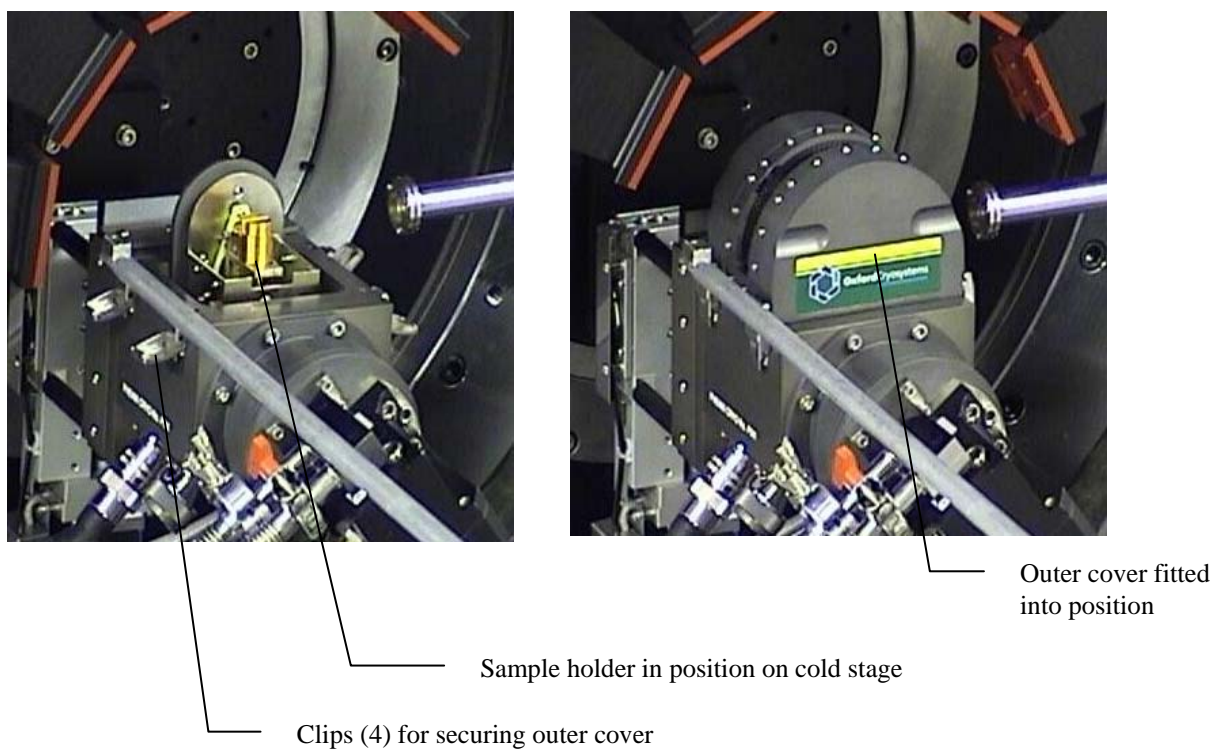

Figure 9 Views of PheniX cryostat in position on diffractometer
- Fit the outer cover as shown in Figure 9 and close the 4 clips to hold it in place.